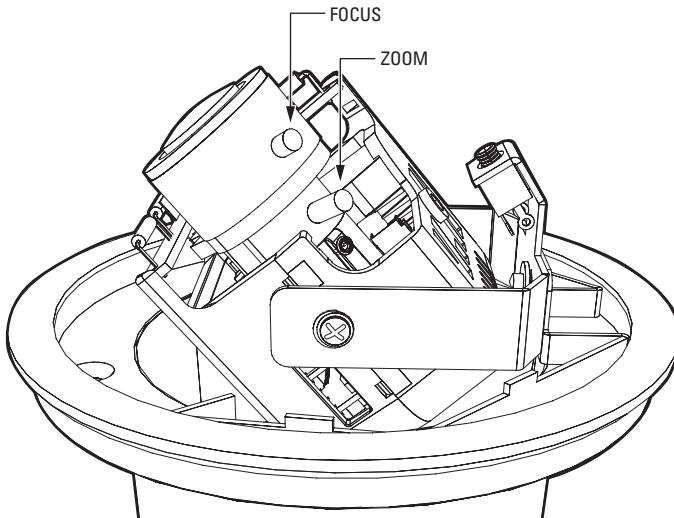

Figure 8. Location of Zoom and Focus Adjustments
1. Select a field of view by turning the zoom adjustment ring clockwise/counterclockwise (refer to Figure 8).